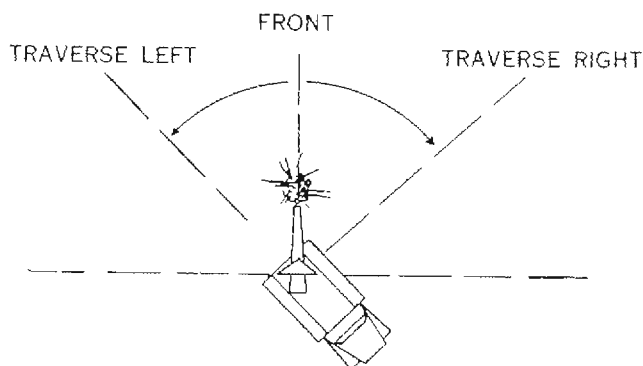
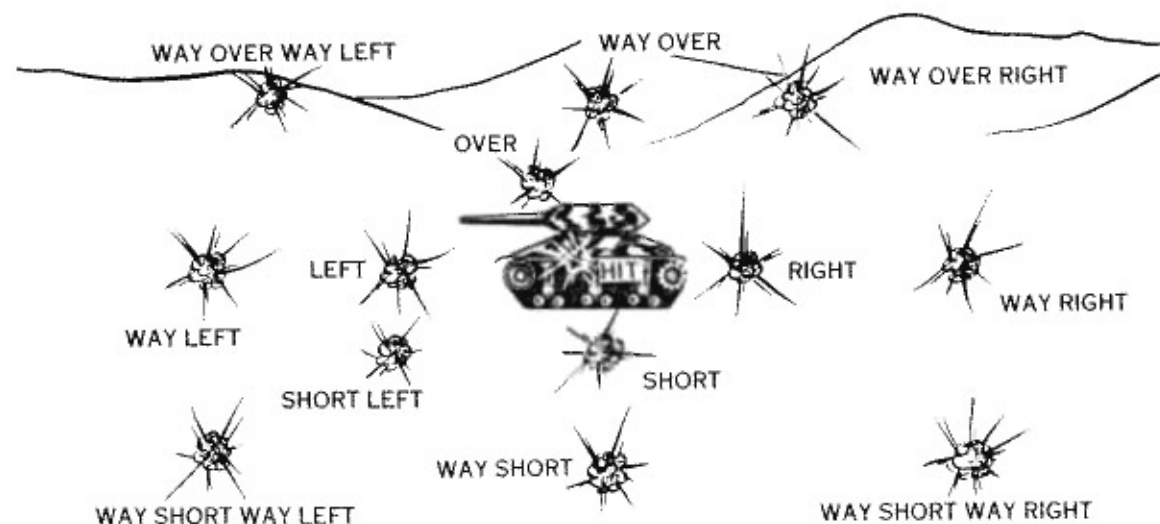

Figure 28
Figure 29
(3) Range--400, 600, 1200. Range is always given to the nearest 100 yards. 400 is announced as "Four hundred," 1000, as "One thousand," 1200, as "One two hundred," 2900, as "Two nine hundred," etc.
(4) Direction to traverse: (where applicable)--TRAVERSE RIGHT or TRAVERSE LEFT. (Fig. 28)
(5) Stopping traverse--Given to assist the gunner to get the target in his sight. As the gun tube nears the target, gun commander commands: STEADY-Y-Y-Y, as a warning, and when the gun is on the target, he calls, ON. The gunner now has the target in his field of view. When the gunner sees the target he says "check". The destroyer commander then announces the lead
(6) Lead--ONE LEAD, TWO LEADS, ZERO LEAD, etc. Announcement of the lead element is considered the command to fire unless a fire control command follows the lead command
(7) Fire control --AT MY COMMAND, AT MY SIGNAL, etc. Used only when the gun commander wishes to control the fire.
c. Examples of initial fire orders--(1) HE, LEADING TANK, 600, TRAVERSE RIGHT, STEADY.....ON, 2 LEADS, AT MY COMMAND.
(2) LAST TANK, 500, TRAVERSE LEFT, STEADY.....ON, ONE LEAD.
d. Subsequent fire orders.--(1) After the first round, the usual procedure is for the gun commander to sense the shots, leaving the necessary corrections up to the gunner. (For terms used in sensing see fig. 29. However, the gun commander will announce a new range or lead at any time he believes the circumstances warrant it.